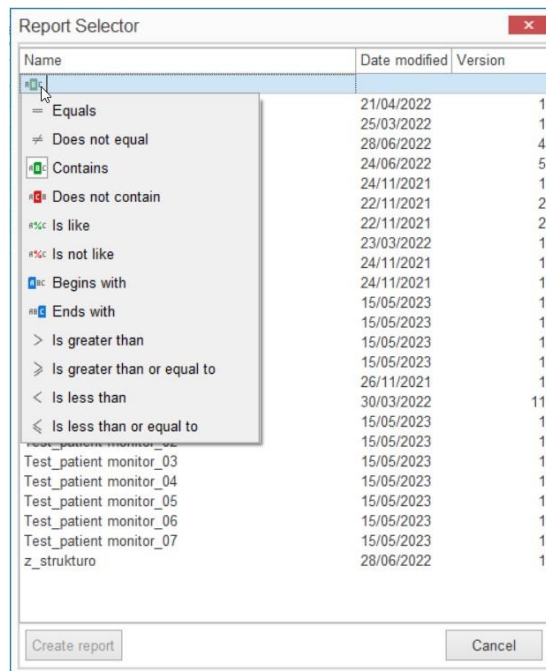

Figure 12.1: Report Selector window with Find tool opened
- **Option**: Data structure file was opened from Cloud storage: Report Selector window with available list of graphic Report template files is opened, see **Figure 12.1**. A convenient tool is available to search for pre-made Report template.